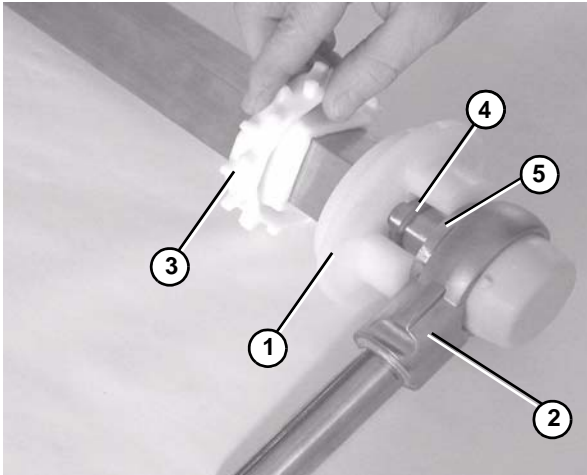

Figure 69
1. Attach a flanged puck (**Figure 69, item 1**), an O-ring (**Figure 69, item 4**), a washer (**Figure 69, item 5**) and a bearing shaft assembly (**Figures 69, item 2**) to the supporter end of the drive spindle.
2. Slide the first sprocket (**Figure 69, item 3**) onto the drive spindle.